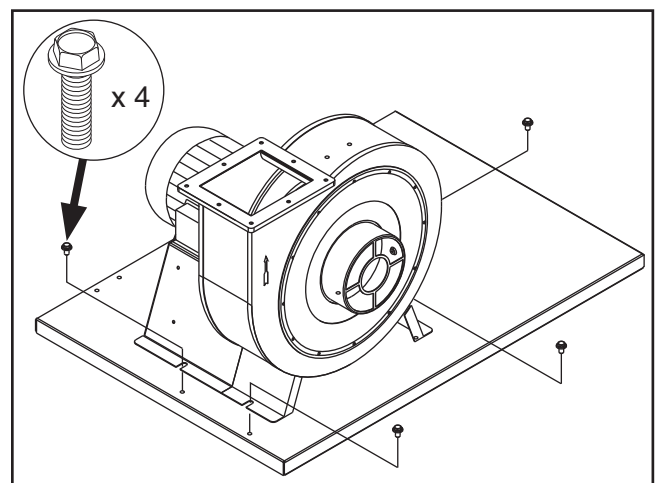

Figure 12. Motor and impeller assembly installed onto the base.
3. Turn the base over, align the motor and impeller assembly with the mounting holes, then secure the assembly with (4) $\frac{5}{16}$ -18 x $\frac{1}{2}$ " flange bolts, as shown in **Figure 12**.